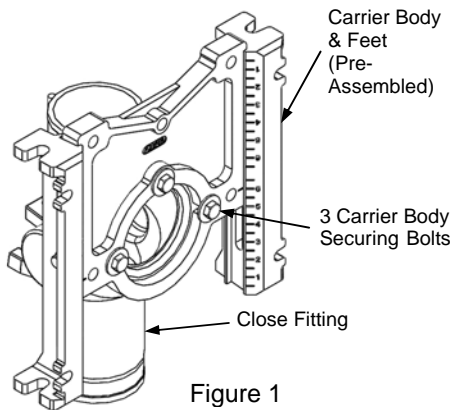

Figure 1
1. Locate and install fitting in waste line at required roughing. Place pre-assembled carrier, with trademark out, over fitting inlet and secure in place with three 3/8" X 1" hex head bolts. Adjust feet as required. See Figure 1.